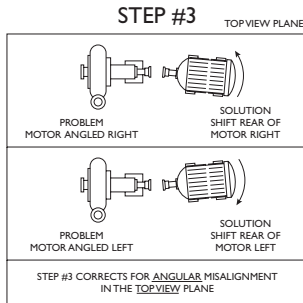

Fig. 30-7
3. Correct for angular misalignment in the top view plane (Fig. 30-7).